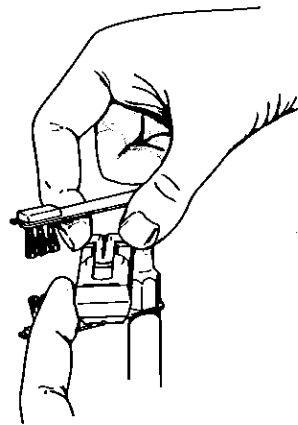

Figure 8. Replacing Upper Stylus.
3. Hold the tone arm against the stylus brush post, *Figures 8 and 9*. Slide worn armature assemblies out of pickup by gripping the top portion of the "T", using the thumb and forefinger. Light pressure in the direction away from the stylus point will slide the armature out of the cartridge slot.